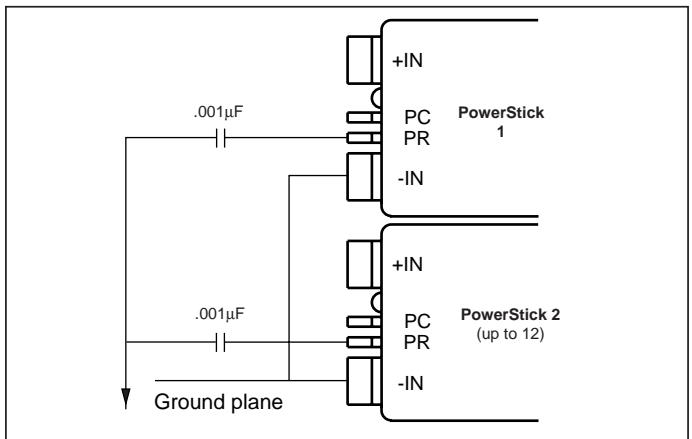

Figure 10—AC coupled single-wire interface.
**AC coupled single-wire interface.** All PR pins are connected to a single communication bus through .001 $\mu$ F (500V) capacitors. This interface supports current sharing and is fault tolerant except for the communication bus. See Figure 10.